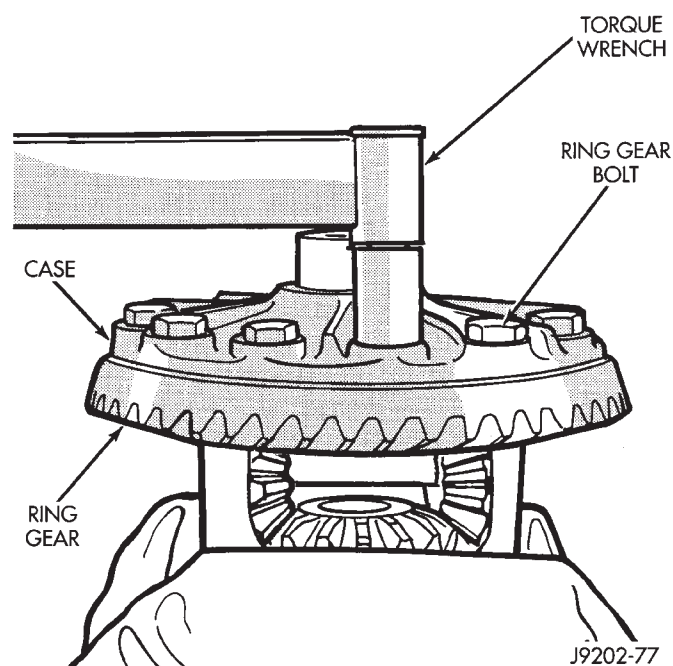

Fig. 33 Ring Gear Bolt Installation
- (1) Invert the differential case and start two ring gear bolts. This will provide case-to-ring gear bolt hole alignment.
- (2) Invert the differential case in the vise.
- (3) Install new ring gear bolts and alternately tighten to 95–122 N·m (70–90 ft. lbs.) torque (Fig. 33).
- (4) Install differential in axle housing and verify gear mesh and contact pattern.